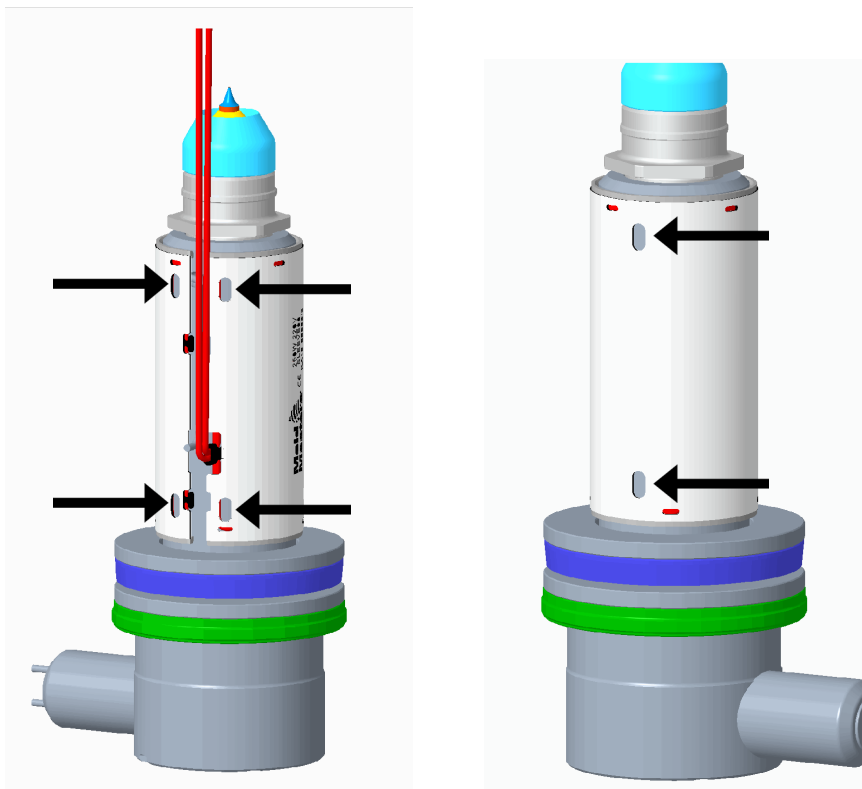

Figure 5-6 Slots on the emergency heater sleeve
2. Use the slots on the emergency heater sleeve to pull the emergency heater sleeve off the nozzle. See Figure 5-6.